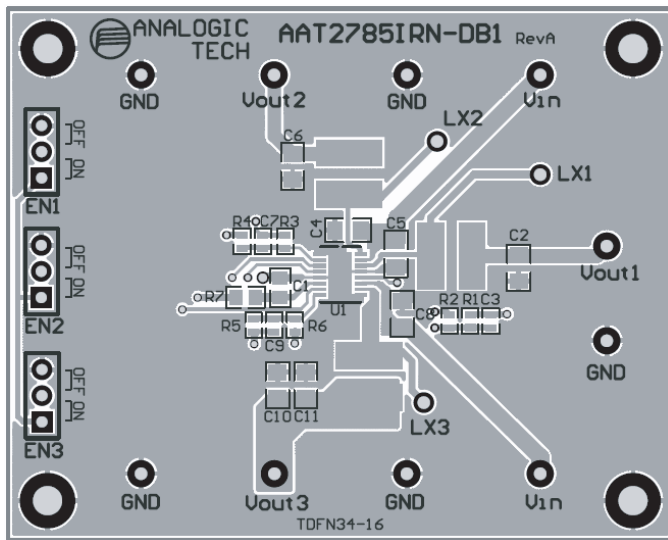

Figure 2: AAT2785 Evaluation Board Component Side Layout.
The term $\frac{V_o}{V_{IN}} \cdot \left(1 - \frac{V_o}{V_{IN}}\right)$ appears in both the input voltage ripple and input capacitor RMS current equations and is at a maximum when V_o is twice V_{IN} . This is why the input voltage ripple and the input capacitor RMS current ripple are a maximum at 50% duty cycle. The input capacitor provides a low impedance loop for the edges of pulsed current drawn by the AAT2785. Low ESR/ESL X7R and X5R ceramic capacitors are ideal for this function. To minimize stray inductance, the capacitor should be placed as closely as possible to the IC. This keeps the high frequency content of the input current localized, minimizing EMI and input voltage ripple. The proper placement of the input capacitor ($C1$) can be seen in the evaluation board layout in the Layout section of this datasheet (see Figure 2). A laboratory test set-up typically consists of two long wires running from the bench power supply to the evaluation board input voltage pins. The inductance of these wires, along with the low-ESR ceramic input capacitor, can create a high Q network that may affect converter performance. This problem often becomes apparent in the form of excessive ringing in the output voltage during load transients. Errors in the loop phase and gain measurements can also result. Since the inductance of a short PCB trace feeding the input voltage is significantly lower than the power leads from the bench power supply, most applications do not exhibit this problem. In applications where the input power source lead inductance cannot be reduced to a level that does not affect the converter performance, a high ESR tantalum or
The suggested PCB layout for the AAT2785 is shown in Figures 2 and 3. The following guidelines should be used to help ensure a proper layout.
1. The power input capacitors (C5 and C8) should be connected as closely as possible to VP1_2, VP3 and PGND1,2,3 as shown in Figure 2. Due to the pin placement of VP1_2 and VP3 for all converters, proper decoupling is not possible with just one input capacitor.